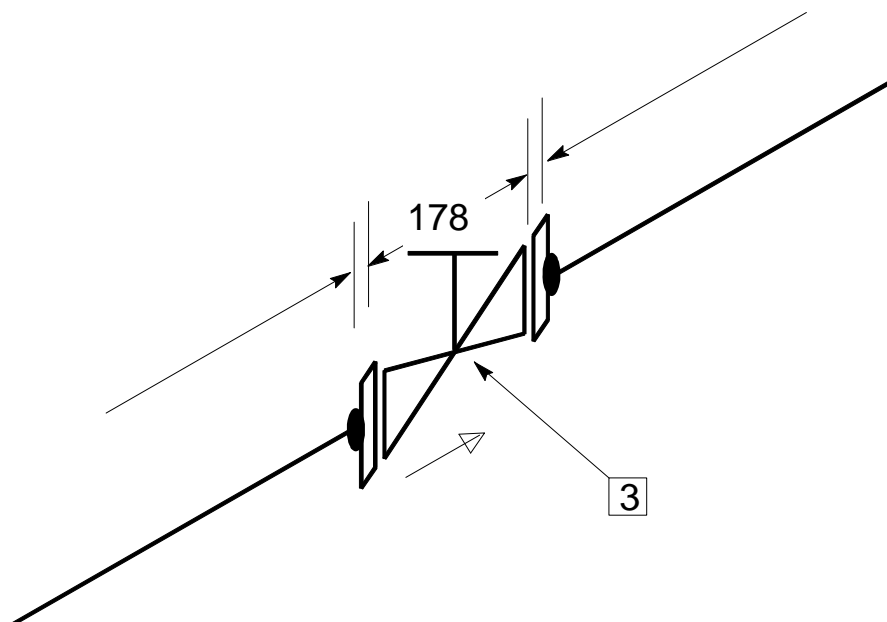

Figure 6:1. Valve with flow arrow
- The number plotted in a box next to each component corresponds to the number of the item in the material list. All Valves and other in-line components have a flow-direction arrow plotted alongside (unless the arrows have been suppressed using the FLOWARROWS command). See Figure 6:1.: Valve with flow arrow.